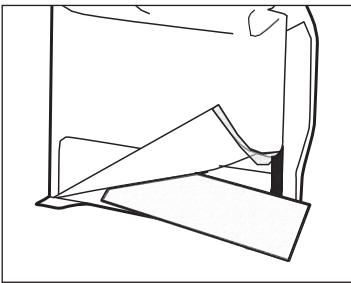

Figure 24. Taking out the filter.
2. Take out the filter screen (see Figure 24).